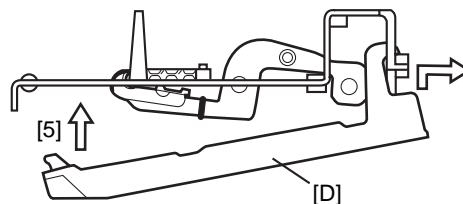

Fig.12
- 14-3 Place the white key in the order of [4] and [5]. (Fig. 12)